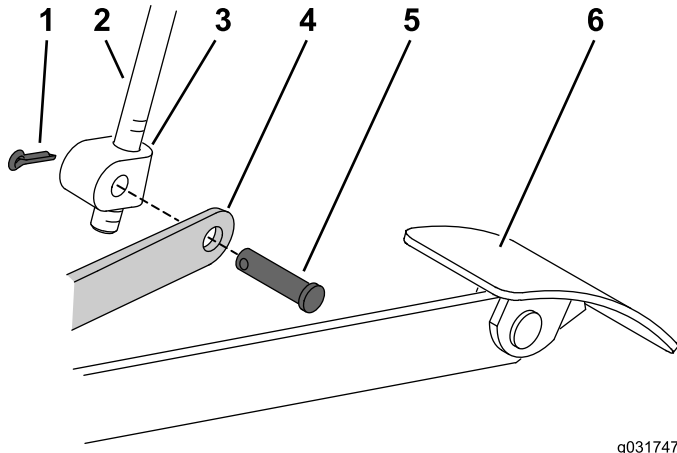

Figure 4
3. Align the clevis hole in the plastic fitting with the hole in the accelerator arm (Figure 4).